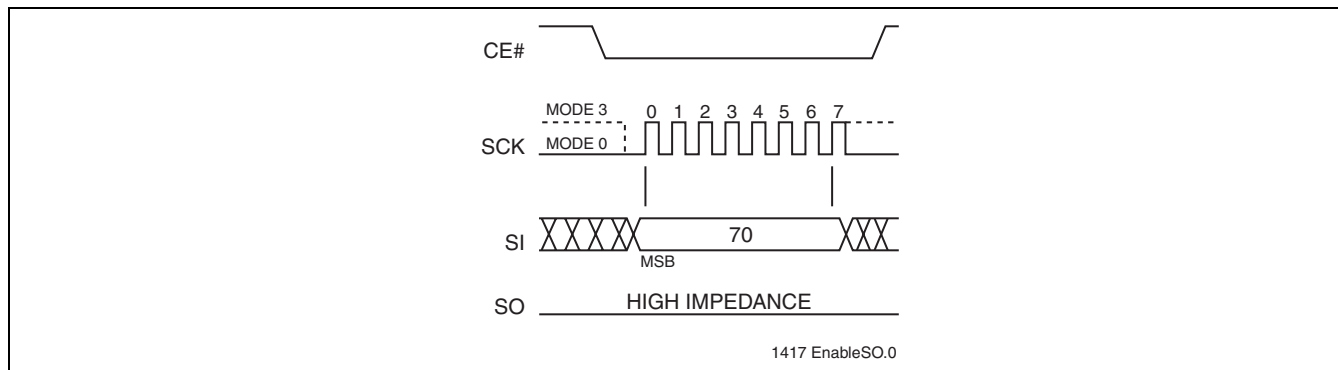

FIGURE 8: Enable SO as Hardware RY/BY# during AAI Programming
The hardware end-of-write detection method eliminates the overhead of polling the Busy bit in the Software Status Register during an AAI Word program operation. The 8-bit command, 70H, configures the Serial Output (SO) pin to indicate Flash Busy status during AAI Word programming. (see Figure 8) The 8-bit command, 70H, must be executed prior to executing an AAI Word-Program instruction. Once an internal programming operation begins, asserting CE# will immediately drive the status of the internal flash status on the SO pin. A "0" indicates the device is busy and a "1" indicates the device is ready for the next instruction. De-asserting CE# will return the SO pin to tri-state.